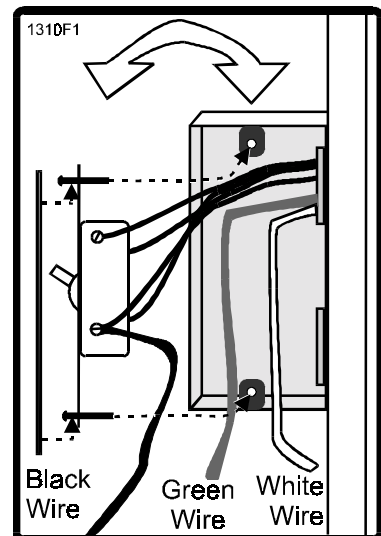

Figure 11. AC Wiring.
3. **GROUND THE SYSTEM.** The system contains parts which may be damaged by static discharge. A proper earth ground connected to the gate operator housing (see Figure 11) will significantly reduce the chances of damage or improper operation. The shielding in the cables specified for all remote sensors and controls should also be connected to earth ground at the controller end of the cable only.
Run power cables through conduit to Gate Operator, then connect wires to the switch box as shown in Figure 11: